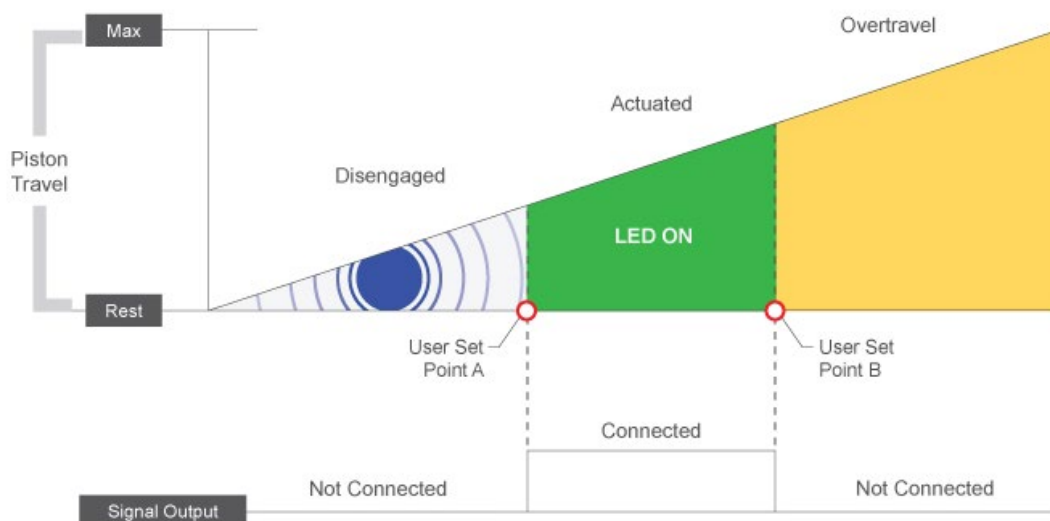

Figure 15. Dual Point Calibration Graph
9.2.6. Apply 24V to pin #2 for 2 seconds to set point B (Refer to Figure 15). The upper limit will be set once the button is released.